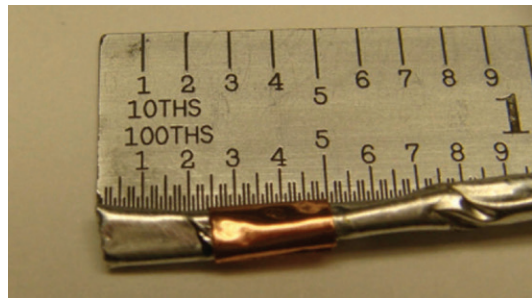

Figure 30: Wrapping the pair
6. Cut a 0.5-inch piece of copper or polyimide tape for each pair of the cable. Wrap a piece around each pair 0.25 inch from the end of the cable (Figure 30).